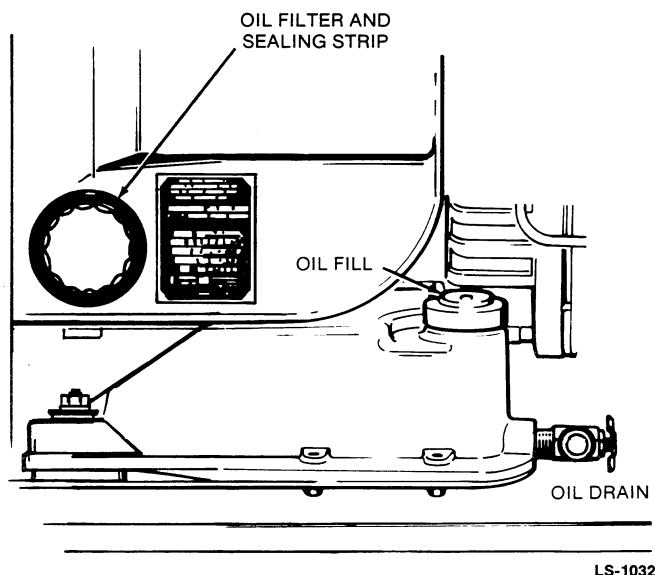

FIGURE 9. OIL AND FILTER CHANGE
**Oil Filter:** Change the oil filter every 200 hours or whenever the oil is changed. Remove the filter (see Figure 9) by turning counterclockwise, using a filter wrench. Install the sealing strip over the filter to prevent air loss in the area indicated. It is advisable to wipe dry the drip pan located below the filter. Coat rubber gasket on filter with a film of oil before installing. Install the filter finger-tight plus 1/4 to 1/2 turn. If oil becomes so dirty that the markings on the oil level indicator cannot be seen, change the filter and shorten the filter service period.